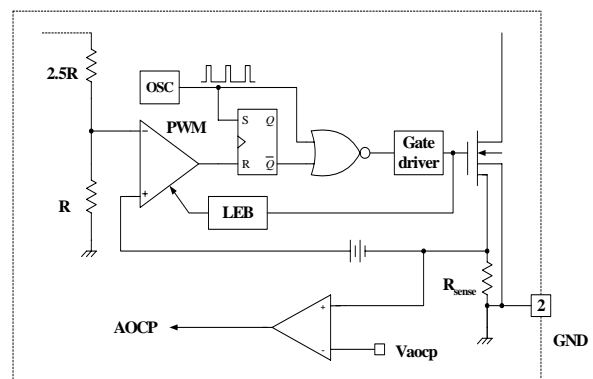

Figure 8. AOCP Block
**3.2 Abnormal Over Current Protection (AOCP) :** Even though the FPS has OLP (Over Load Protection) and current mode PWM feedback, these protections are not enough to protect the FPS when a secondary side diode short or a transformer pin short occurs. The FPS has an internal AOCP (Abnormal Over Current Protection) circuit, as shown in figure 8. When the gate turn-on signal is applied to the power Sense FET, the AOCP block is enabled and monitors the current through the sensing resistor. The voltage across the resistor is then compared with a preset AOCP level. If the sensing resistor voltage is greater than the AOCP level, the reset signal is applied to the latch, resulting in the shutdown of SMPS.